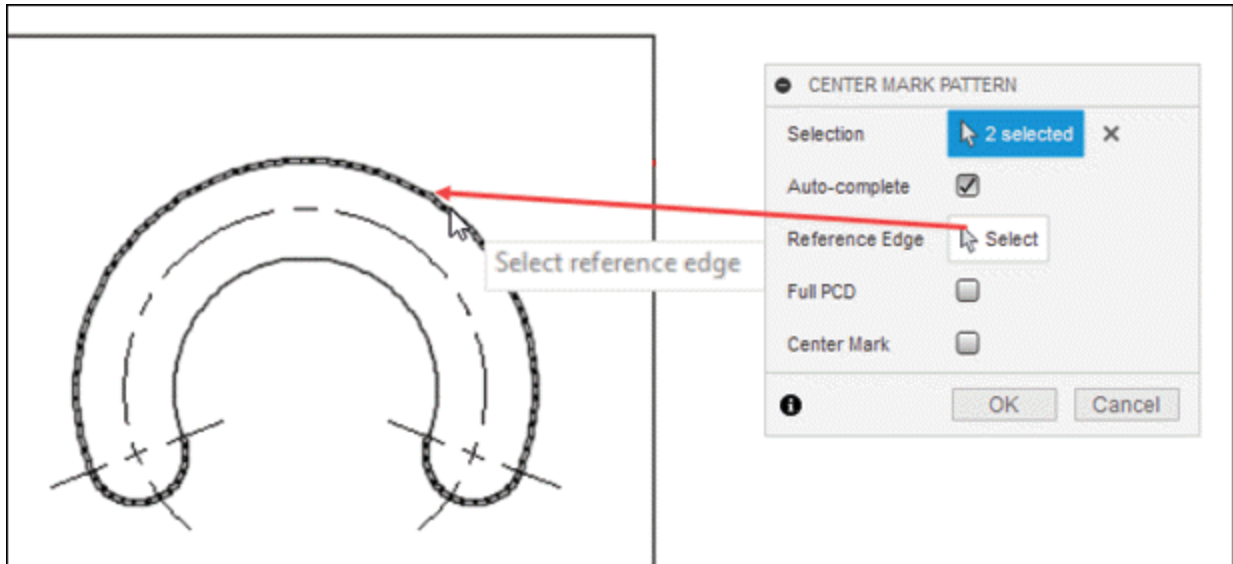

Figure-46. Selecting reference edge
- In cases where you want to specify the PCD reference manually, click on the **Reference Edge** selection button after selecting holes and then select the reference edge; refer to Figure-46.